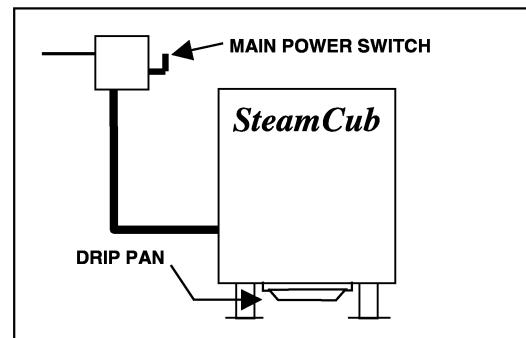

Figure 2-1 Main Power Switch
- c. Refer to the main power switch in Figure 2-1, and turn on electric power to the steamer.